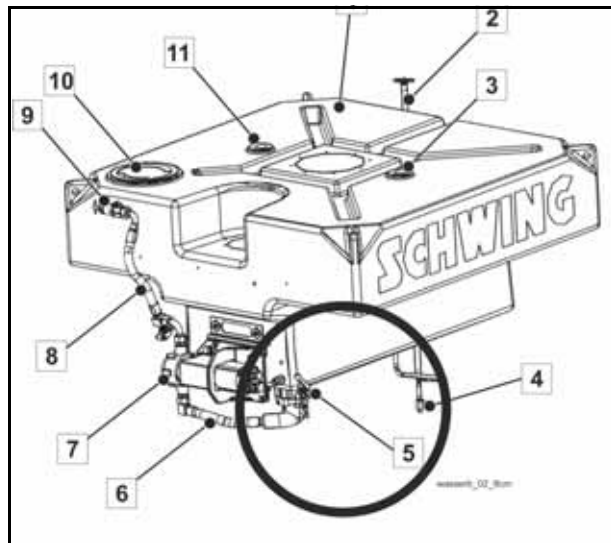
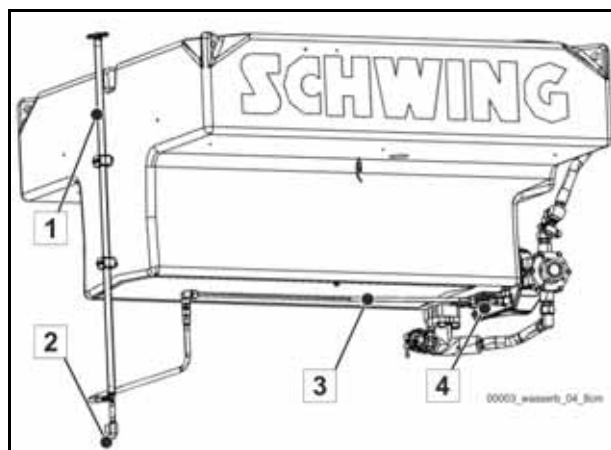

Fig. 193
Fig. 194
Close the ball valve (5) (**Fig. 193**) in the pump suction pipe and (13) (**Fig. 194**) to prevent the water case from draining.
The globe valve (9) (**Fig. 193**) sets the max. water pressure that can be generated by the water pump.
- First close the valve at position (13) (**Fig. 194**) near the pump.
- Open the valve at position (4) (**Fig. 194**) at the lower end of the water level gauge.